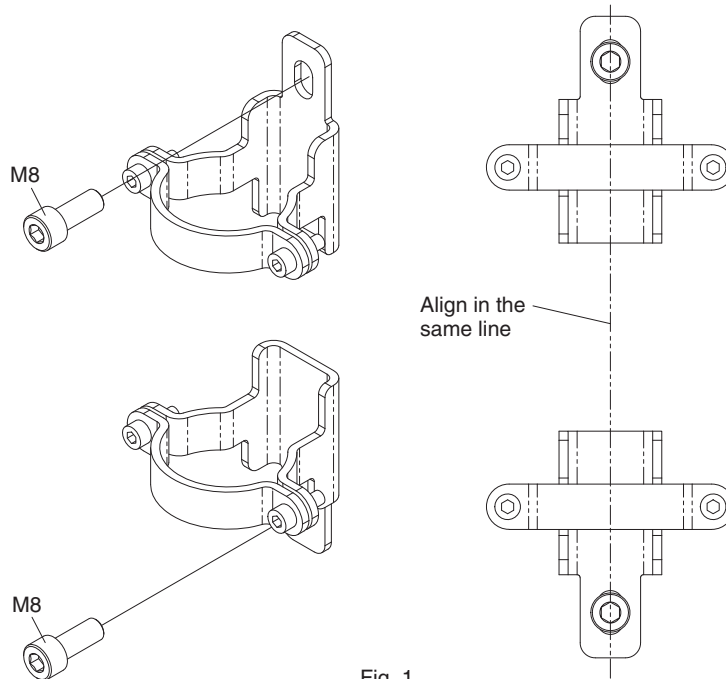

Fig. 1
1. Securely tighten the screws to fix the separately sold bracket (F39-LSGTB-K) to the mounting position of the wall surface (Fig. 1).